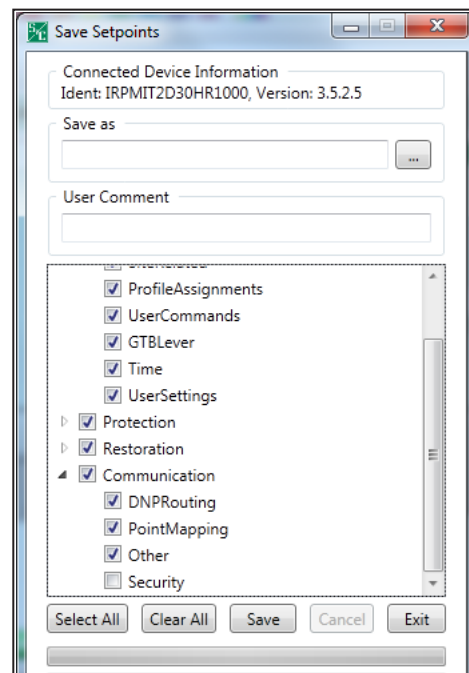

Figure 14. The Save Setpoints dialog box.
- STEP 3.** In the Save Setpoints dialog box, select the setpoint values to be saved. See Figure 14.